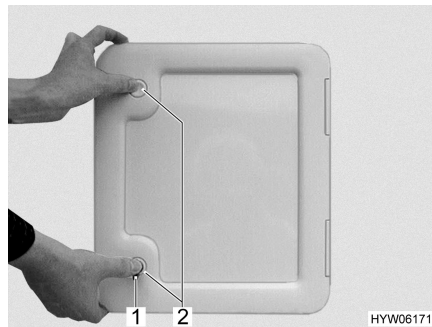

Fig. 77 Flap for the sewage tank
- Open the flap for the sewage tank on the outside of the vehicle. Insert the key into the locking cylinder of the push-button lock (Fig. 77,1) and turn a quarter turn in a clockwise direction.
- Press both push-button locks (Fig. 77,2) simultaneously with your thumb and open the flap for the sewage tank.